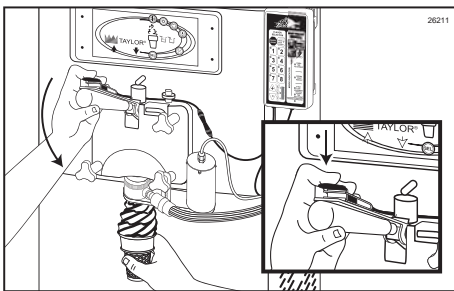

Figure 177
2. Press the Spigot Switch lever against the draw-handle as you pull the draw-handle down to dispense product. (See Figure 177.)